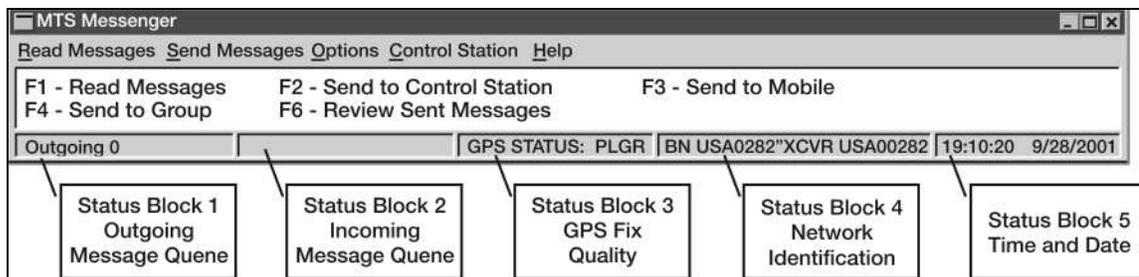

Figure 3-93. MTS Messenger Window
- c. Users will be prompted to select a COMM port for the PLGR. Select COMM 1 for control station. After successfully starting MTS Messenger, the standard display screen also known as the command reference will appear (see Figure 3-93).
- d. Ensure that all status blocks appear at the bottom of the screen (see Figure 3-93).